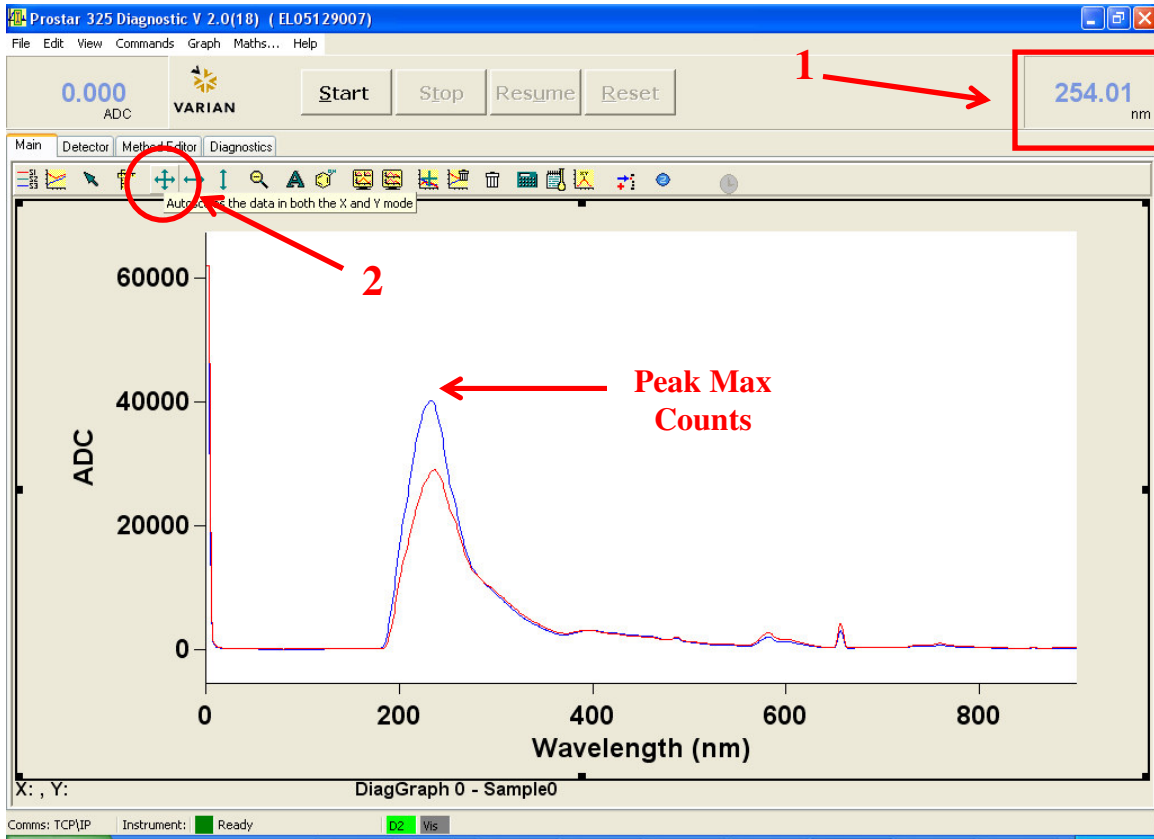

Figure 2
4. Press the *Start WaveScan* button. This will start the WaveScan and send you to the Main Tab where you can see the graph shown in Fig 2.
5. When it gets to the end of its wavelength range (1) shown in Fig 2 you can update the graph by pushing the  button at the top of the graph toolbar (2) or you can keep hitting the expand graph button above every few seconds.